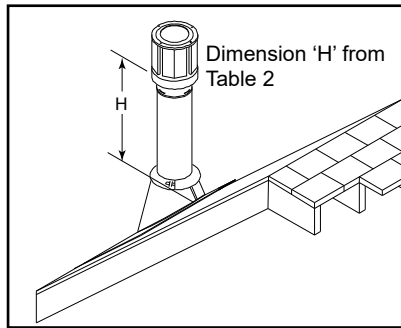

Figure 3.36
Step 7 - Continue to add pipe sections until the height of the system (before adding the cap) meets the minimum building codes requirements as described in Table 2, Figure 3.36. Note that for steep roof pitches, the vent height must be increased. In high wind conditions, nearby trees, adjoining rooflines, steep pitched roofs and other similar factors can result in poor draft, or down drafting.